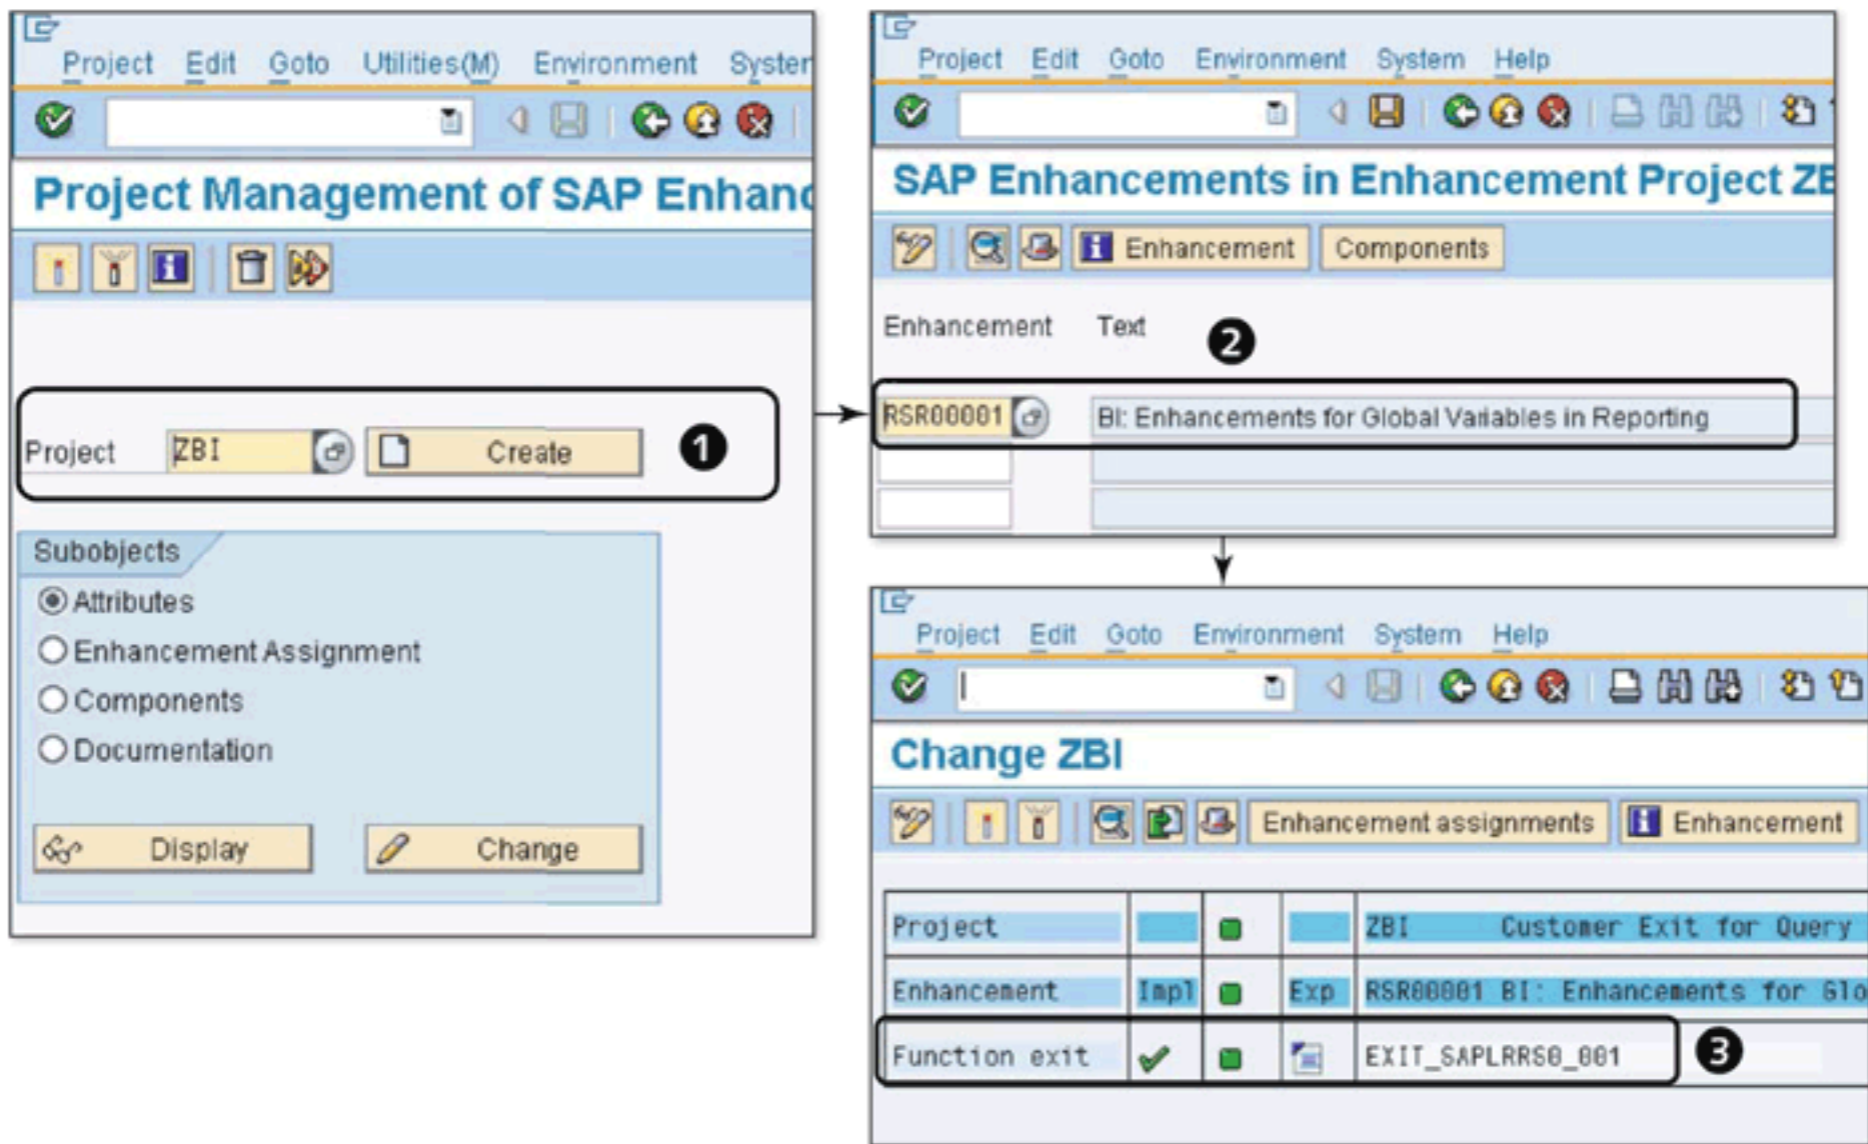
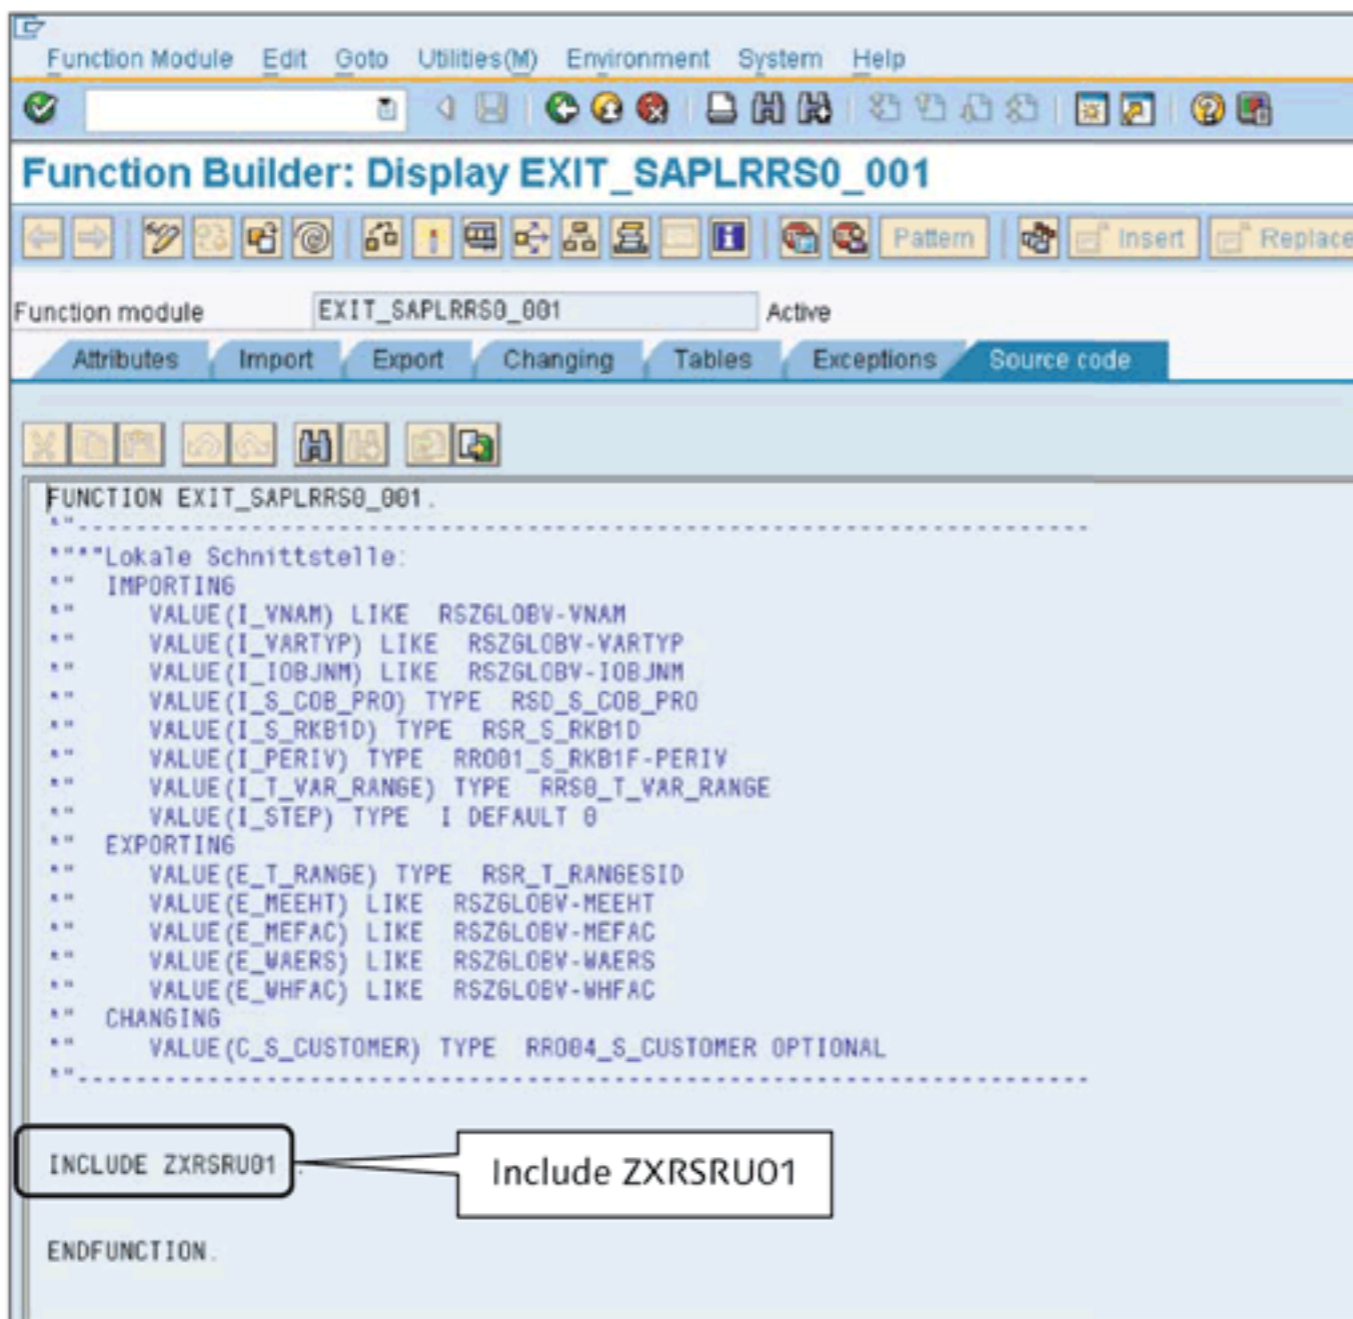

Figure 9.32 Define a Project Using the Function Module for Customer Exit
Figure 9.33 Include to Write Custom Logic
To write the ABAP logic for customer exit variables, SAP has provided a function module exit EXIT_SAPLRRS0_001 in SAP NetWeaver BW. This exit can be accessed only through a project for SAP enhancement. The project can be created using Transaction CMOD in SAP NetWeaver BW (1 of Figure 9.32).
The project used for customer exit query variables should contain the enhancement RSR00001 (2 of Figure 9.32), which makes the exit EXIT_SAPLRRS0_001 available under components of the project (3). Double-click on the FUNCTION EXIT to enter the code. The FUNCTION BUILDER screen for the exit is displayed, as shown in Figure 9.33.